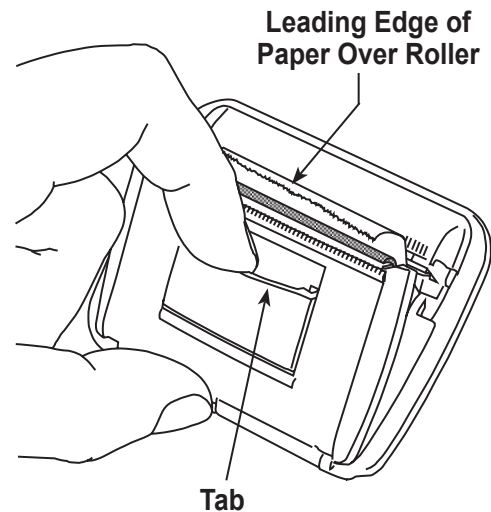

Figure 26
1. Remove the cover on the printer by pulling out on the tab as shown in Figure 26.